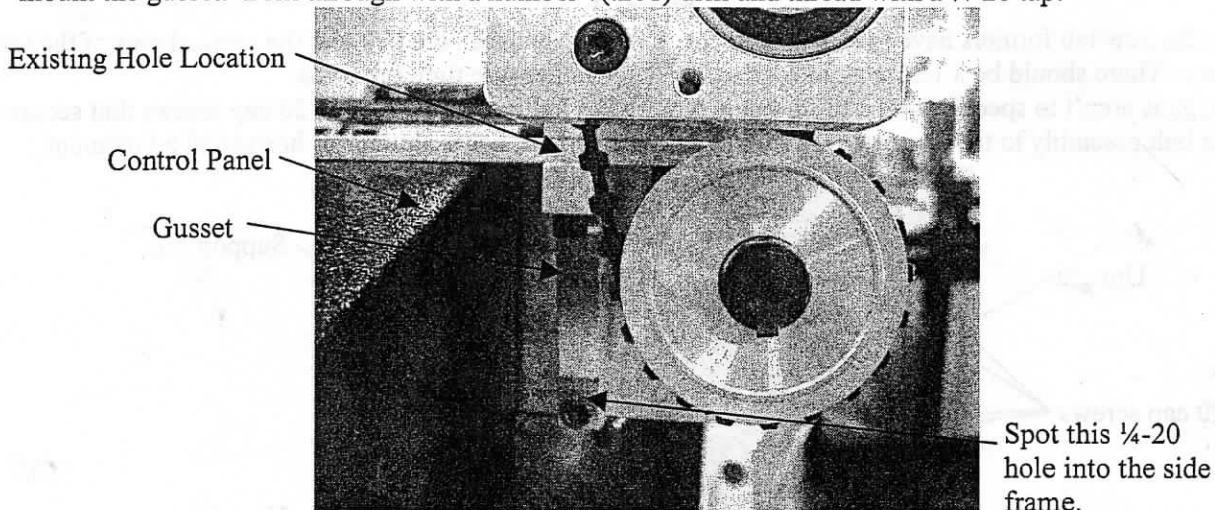

Figure 1
3. Adjust the tabletop toward the back of the machine. Remove the control panel (see **Figure 1**) by removing the 10-32 flat head screws from the tabletop and ¼-20 button heads from the front of the control panel. Set the control panel to the left on the cabinet top leaving the wires connected.
4. Bolt the supplied gusset to the existing hole location (see **Figure 1**) and spot a threaded hole into the frame to mount the gusset. Drill through with a number 7(.201) drill and thread with a ¼-20 tap.